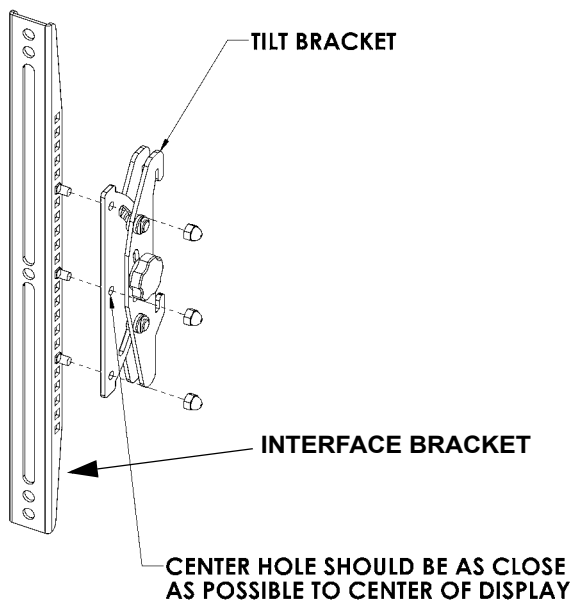

Figure 7. Move Tilt Brackets (If Necessary)
**NOTE:** The tilt brackets can be moved above or below the center line, as needed, to fit the application and/or the desired level (see Figure 7).